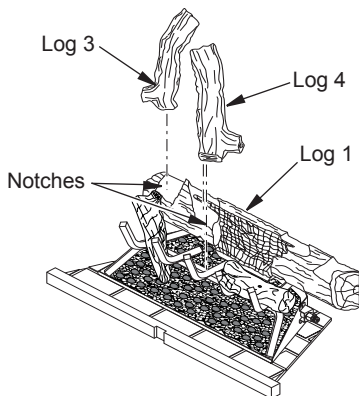
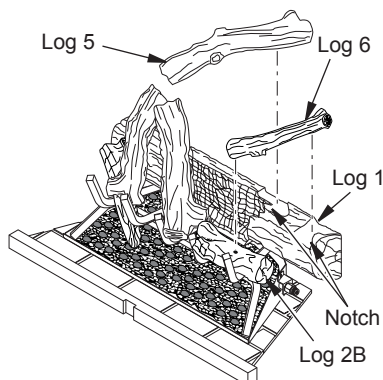
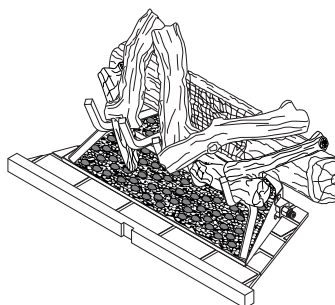

Figure 28 - Installing Logs 3 and 4
Figure 29 - Installing Logs 5 and 6
Figure 30 - Logs Installed for M42E, M42EP, VM42E and VM42EP Models
3. Place log 3 into notch on top left of log 1, resting lower end on left two grate fingers (see Figure 28).
4. Place upper end of log 4 into notch on log 1 as shown in Figure 28. Rest lower end of log 4 on the middle grate finger as shown in Figure 29.
5. Place upper end of log 5 into notch on top inner right of log 1 (see Figure 29). Rest lower end of log 5 on middle grate finger as shown in Figure 30.
6. Place log 6 into notch on top right of log 1 (see Figure 29). Rest lower end of log 6 on top of log 2B (see Figure 30).